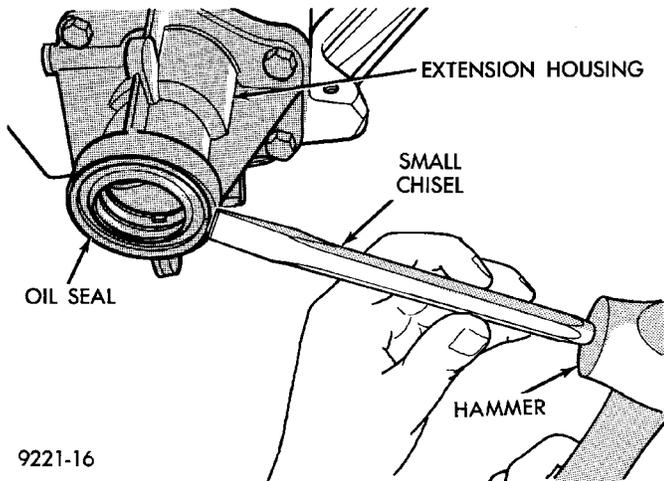

**Fig. 180 Tighten Strap Retaining Nuts**
(5) Tighten retaining bolts to 23 N·m (200 in. lbs.) (Fig. 180).